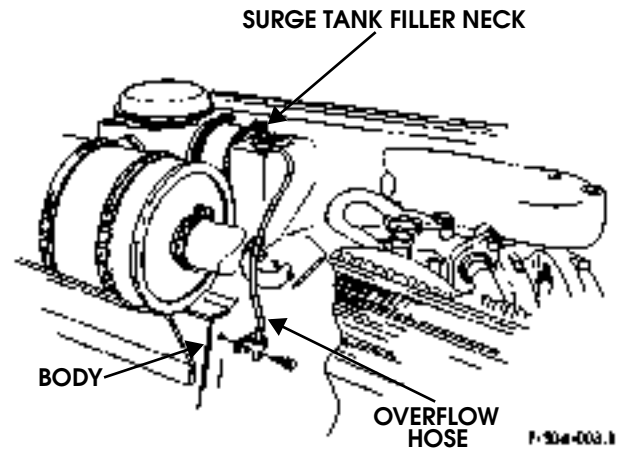

Figure 4-19: Surge Tank Overflow Hose Mounting
1. Remove overflow hose from surge tank filler neck (Figure 4-19).
1. Connect overflow hose to surge tank filler neck (Figure 4-19).